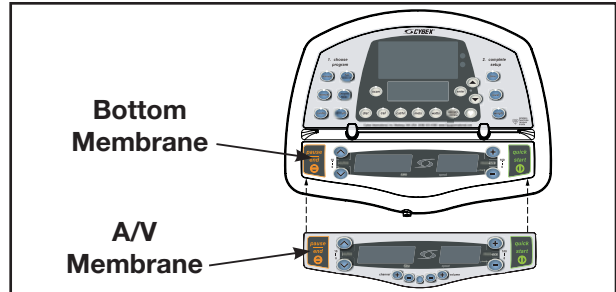

Figure 12
- D. Using a utility knife, pry off bottom membrane from the front console cover. See Figure 12.
- E. Peel off backing from new A/V membrane and place on the front console cover. See Figure 12.